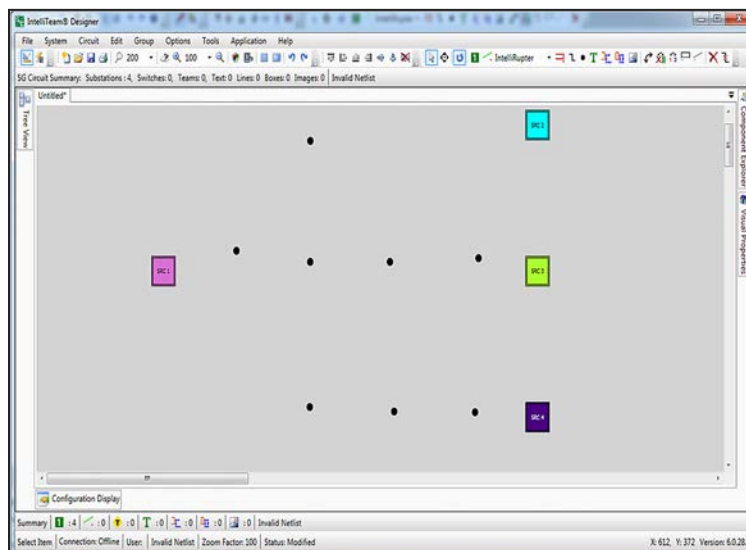
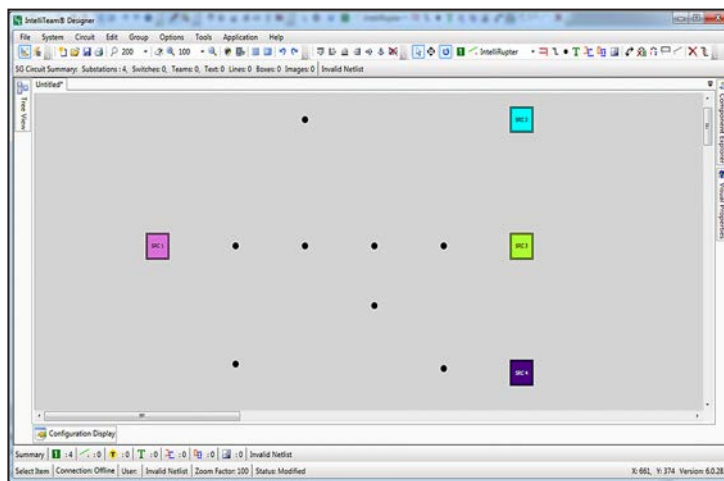

Figure 39. Add wire connection points.
Figure 41. Aligned points make the wire connection process easier.
- STEP 1.** Click on the **Add Wire Connections** icon in the tool bar and then click on the drawing area as indicated in Figure 39.
STEP 6. In Figure 39 on page 60, the Align Bottom tool was used. Continue to use the spacing and alignment tools until the drawing looks like Figure 41.